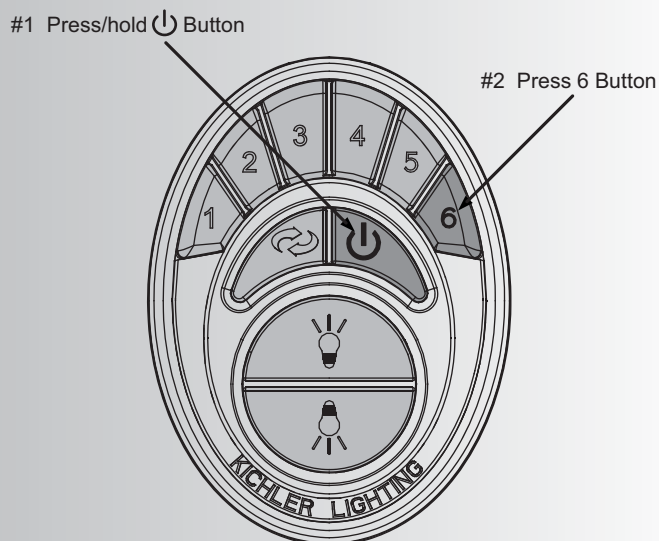

Fig. 21
4. Turn the power on, press and hold the  button until the ceiling fan light blinks twice (Figure 21)
6. After the ceiling fan light blinks twice, press and release the High Speed (6) Button. Let the ceiling fan run for a minimum of 90 seconds (1 ½ minutes). The control system will do another self check, initialize all operational functions and complete the programming process (Figure 21).